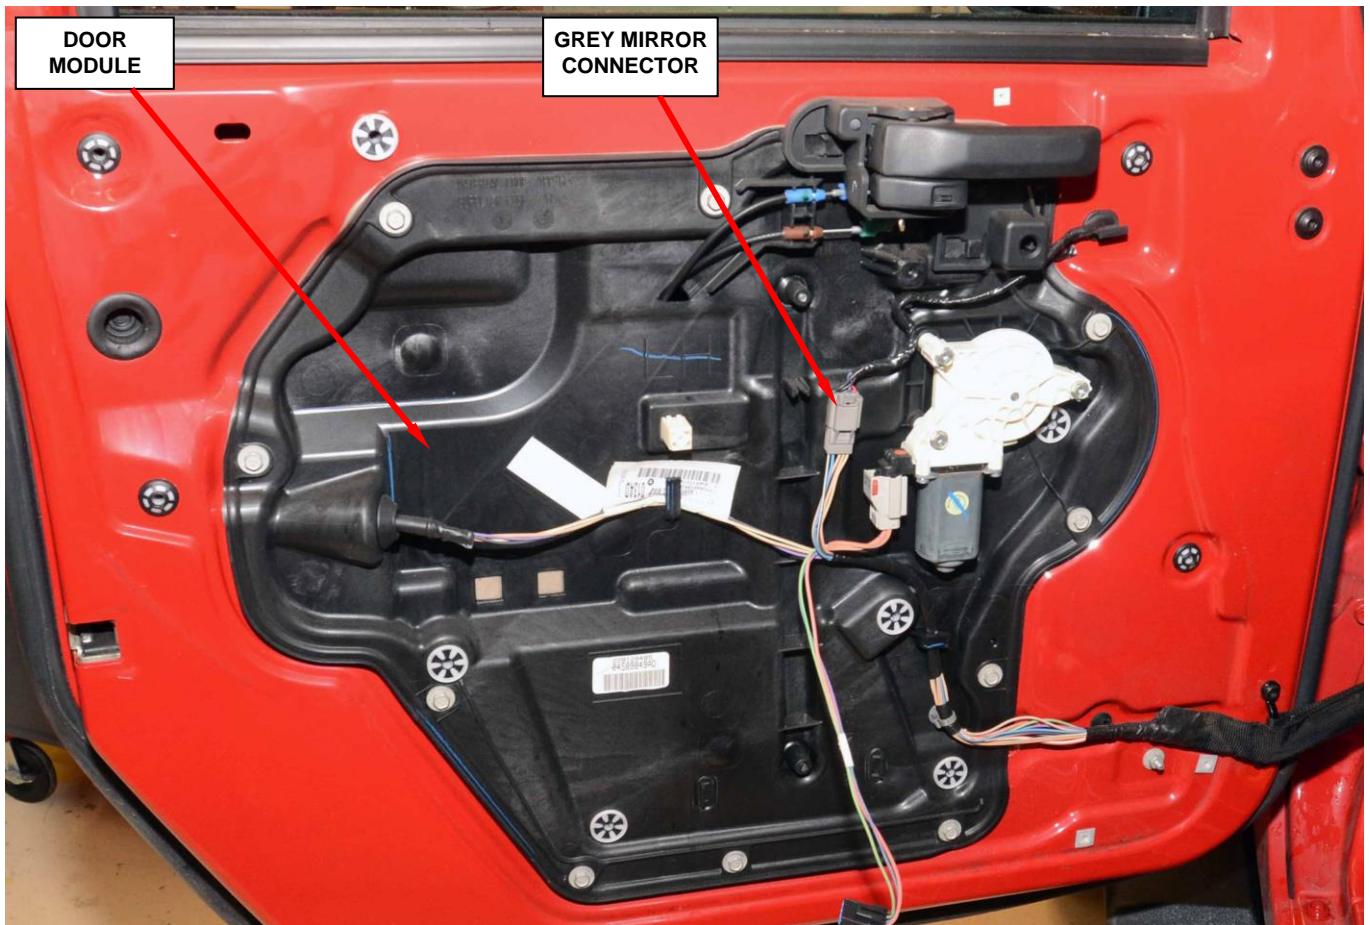

Figure 2 – Grey Mirror Connector
5. Disconnect the grey mirror connector (Figure 2).